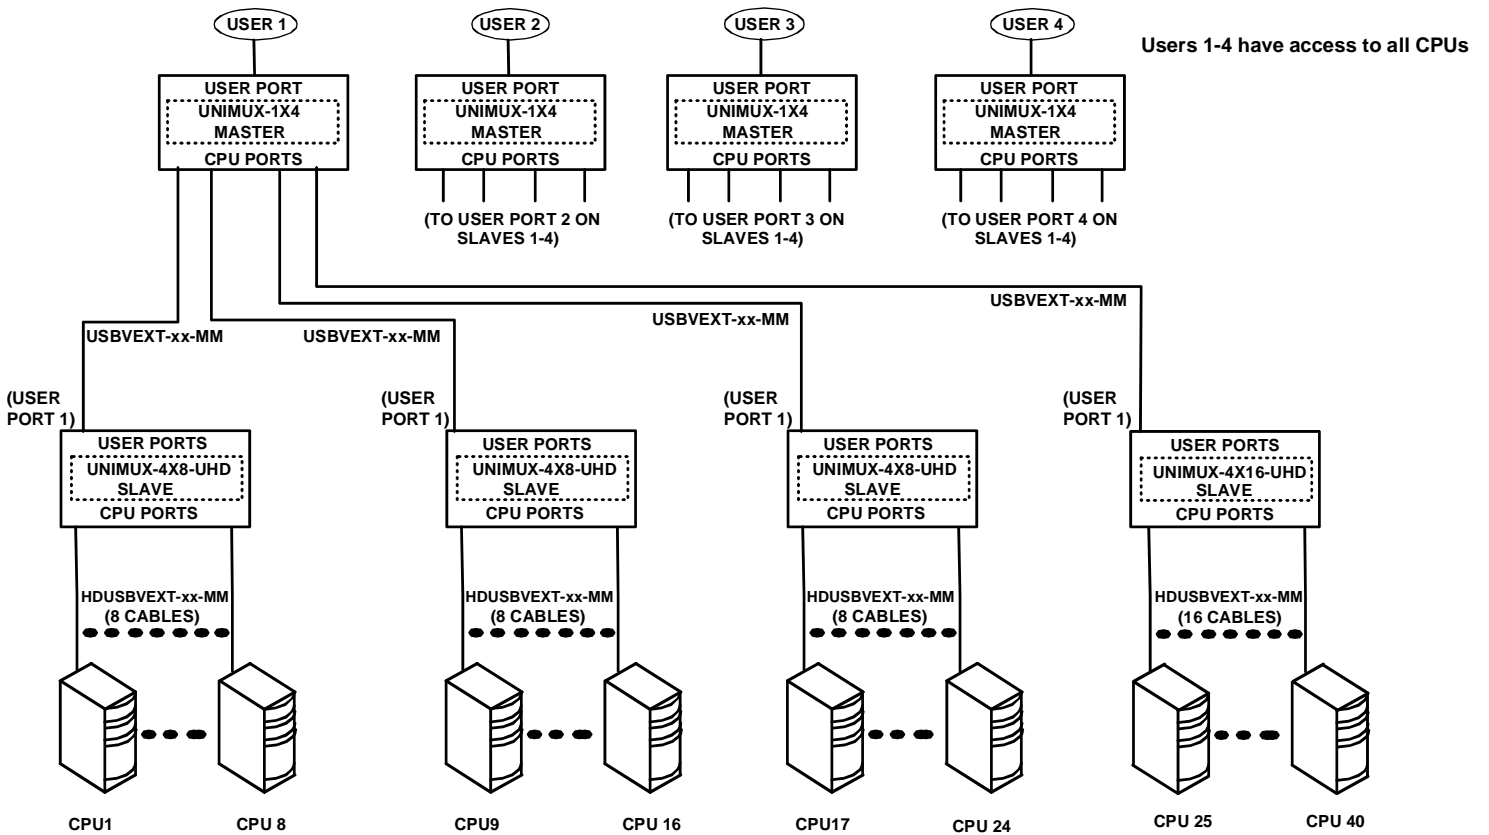

Figure 41- Cascaded configuration with single-user masters
**Exception: If the master is a single user UNIMUX switch, slaves connected downstream can be any size multi-user UNIMUX switch (see Figure 41).**